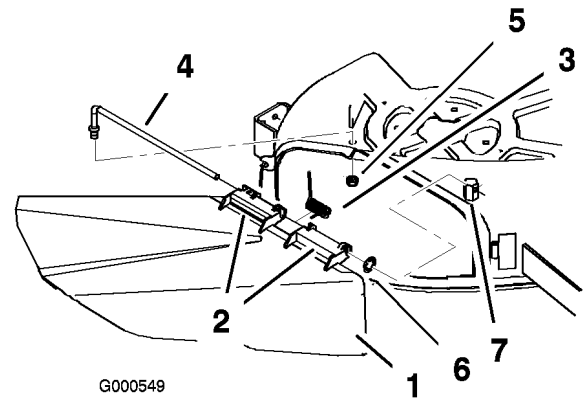

Figure 49
1. Locate items shown in Figure 49.
2. Remove the nut (3/8 inch) from the rod under the mower (Figure 49).
3. Slide the rod out of the short stand-off, internal lock washer, spring, and grass deflector (Figure 49). Remove the damaged or worn grass deflector.
4. Replace the grass deflector and internal lock washer (Figure 49).
Slide rod through second grass deflector bracket and internal lock washer (Figure 49).
7. Insert rod at front of grass deflector into short stand-off on deck. Secure rear end of rod into the mower with a nut (3/8 inch) (Figure 49).